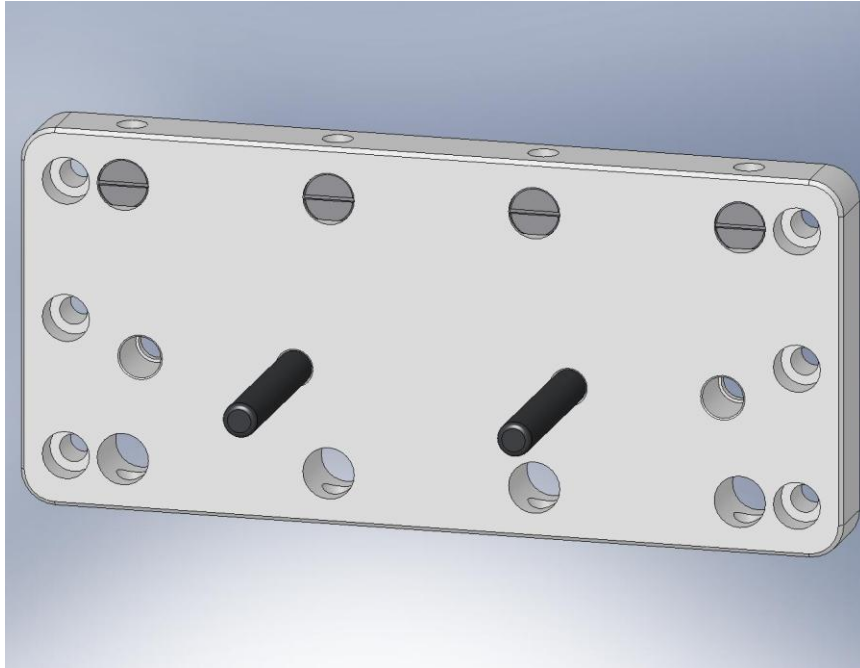

Figure 2.60. Slip in (4) Type 01 Barrel Nuts through the top holes of the Keel Wall. Note the dowel pins are below the mid-plane.
- Place (4) **Type 01 Barrel Nuts** (D071250-01) into the holes lining the top of a **Keel Wall**, as shown in Figure 2.60. The flats should face away from the screw holes.